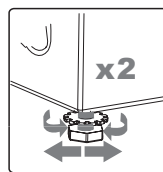

Fig4
**4:** Adjust by rotating the feet upwards or downwards. (Fig 4)